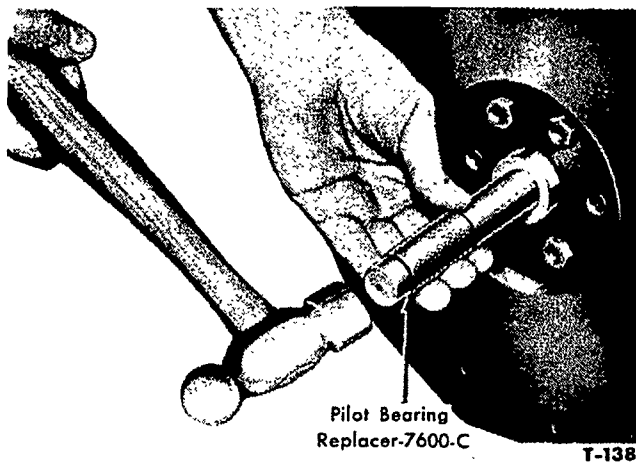

Figure 62—Installing Clutch Pilot Bearing
2. Install the bearing with Clutch Pilot Bearing Replacer 7600-C, see Figure 62.